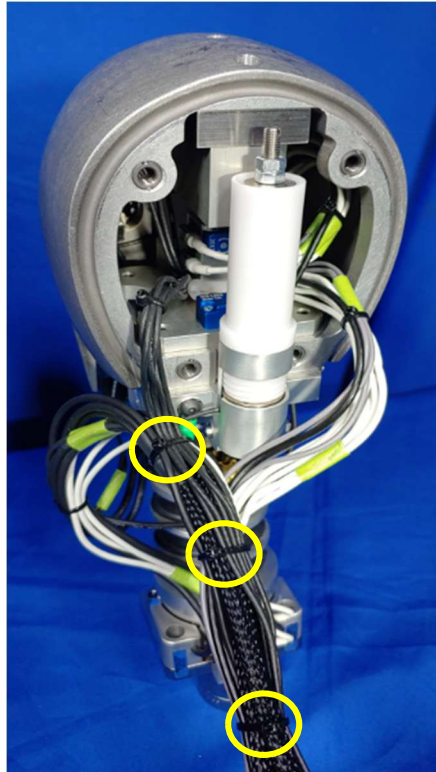

Figure 3-7. Strain relieving cable ties on the neck cable bundle
3.2.6 Remove the strain relieving cable ties from the neck cable bundle (Figure 3-7).